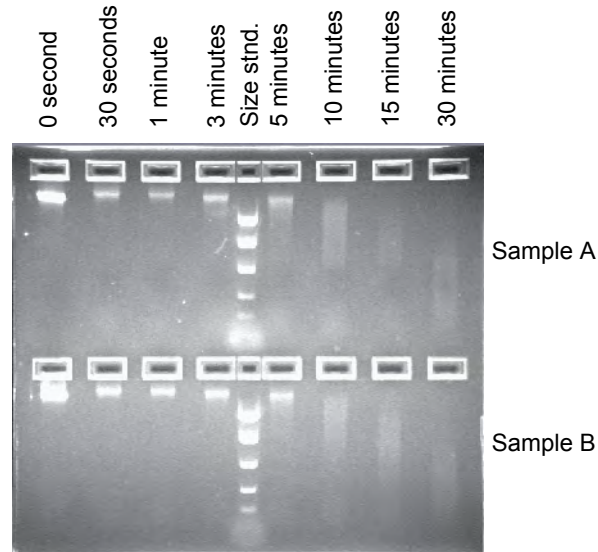

Figure 9 Agarose gel stained with ethidium bromide showing two samples of human gDNA subjected to heating at 99°C for 0 to 30 minutes.
- Run an agarose gel to determine if your DNA is degraded. Look for a tight band of high molecular weight. Smearing indicates degraded DNA. Figure 9 illustrates DNA degraded by heat.